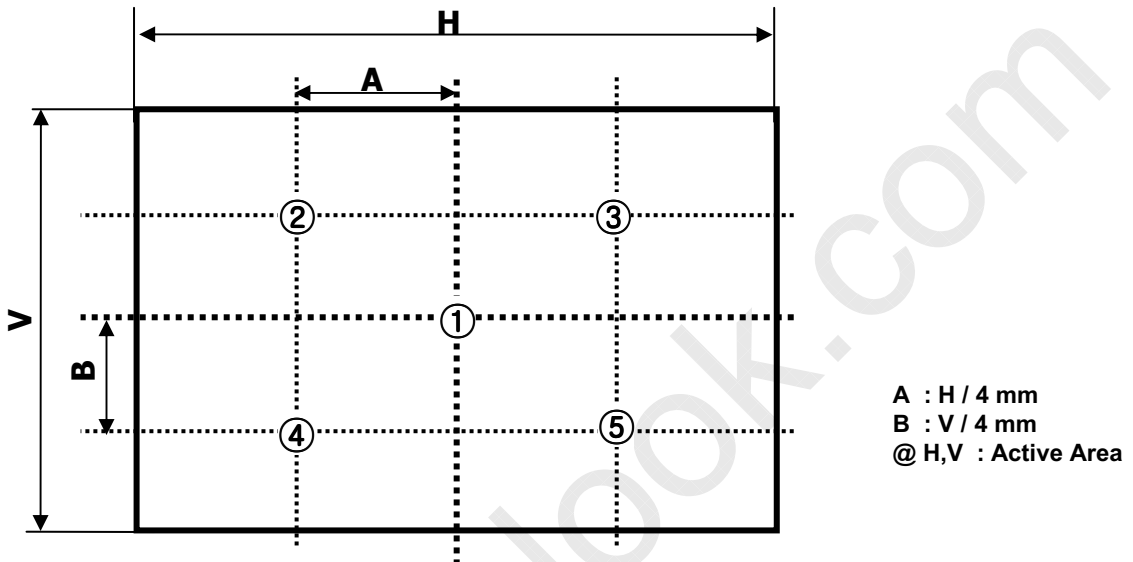

FIG. 10 5 Points for Luminance Measure
- Surface luminance is determined after the unit has been 'ON' and 1Hour after lighting the backlight in a dark environment at  $25 \pm 2^\circ\text{C}$ . Surface luminance is the luminance value at center 1-point across the LCD surface 50cm from the surface with all pixels displaying white. For more information see the FIG. 10.
For more information, see the FIG. 10.